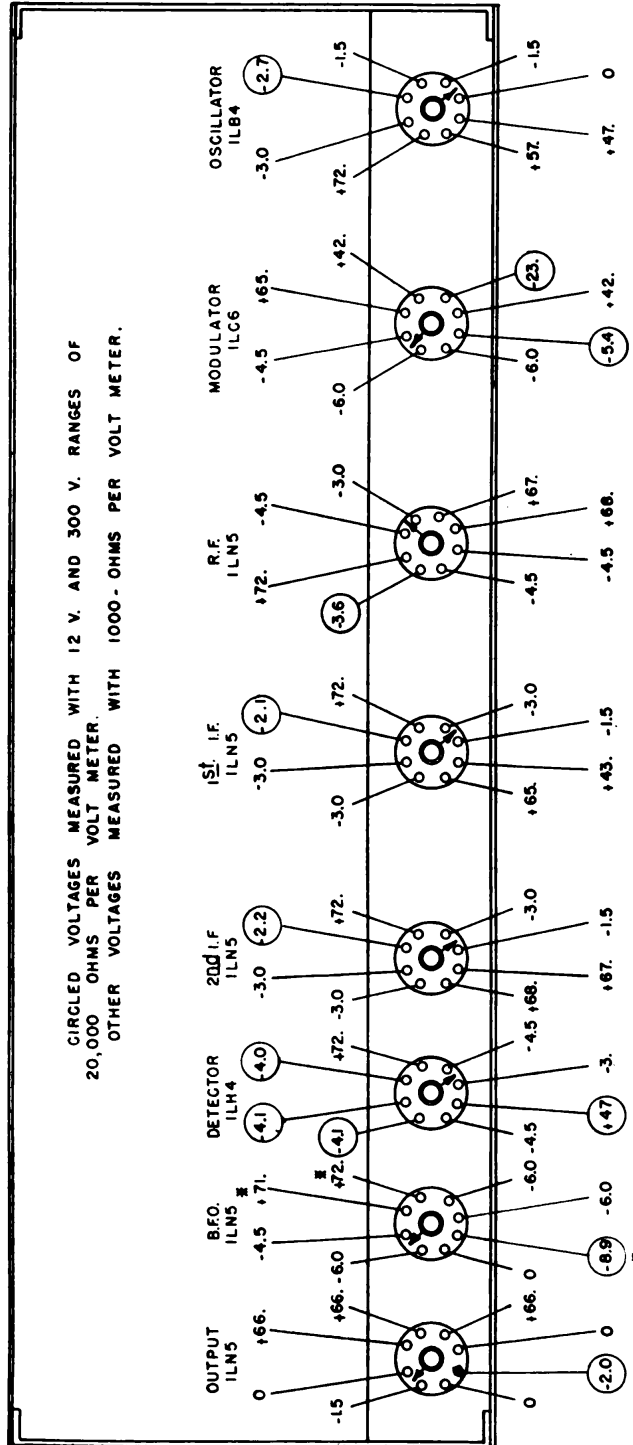

Figure 27. Radio Receiver BC-792-A, Diagram of Tube Sockets With Operating Voltages
b. The voltages that should be measured on a normal receiver are shown in figure 27. Because of the tolerance allowed on the values of various circuit elements, deviations of $\pm 10\%$ from the normal are permissible.
c. To make the voltage measurements, connect one side of the voltmeter to any convenient part of the chassis, and then use a test prod connected to the other side of the voltmeter to contact the terminals of each of the sockets in turn. Be careful not to short-circuit any adjacent terminals on the tube sockets with the test prod. It's usually most convenient to measure all the positive voltages with respect to chassis, and then, by connecting the positive side of the voltmeter to the chassis, measure all the negative voltages. In general the voltages are measured with a 1000-ohm per volt meter. The exceptions are indicated in figure 27 by the circles around certain voltages measured in very high resistance circuits. In these instances the voltmeter used had a resistance of 20,000 ohms per volt, in order not to reduce excessively the voltage at the points measured. If you have only a 1000-ohm per volt meter available, the voltages you observe will be considerably lower at these points.